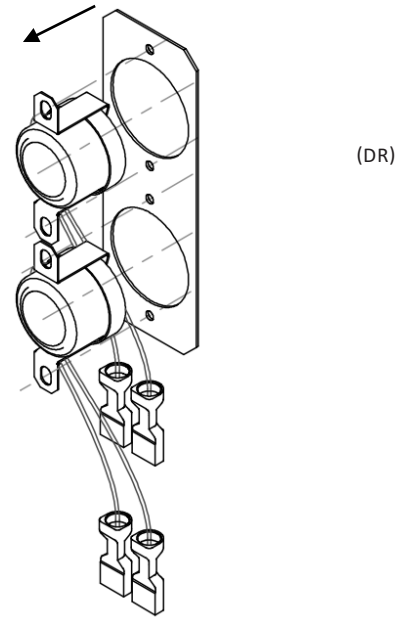

FIGURE 15
- Pass the Temperature Switch wires through the T-Stat Mount and align the holes. See Figure 15.